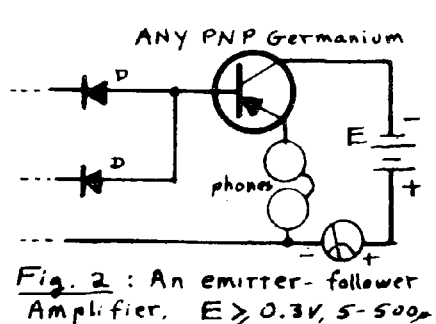

Fig. 2 : An emitter-follower Amplifier, $E \geq 0.3V$, $5-500A$
The amplifier of fig. 2 works better than any of the nominal common emitter ones used with xtal sets, because of the lower distortion provided by the common-collector configuration. Bias is provided by the diodes, and produces no overload until the signal becomes intolerably loud (my son had to detune C2 to attain reasonable volume, even without the amplifier!). With good quality phones, fidelity is magnificent! (THANKS to RHF!)
The amplifier of fig. 2 has high input impedance because of this inherent feature of emitter followers (analogous to cathode followers), so allowing the diodes to be tapped further out on the coil (e.g. +40%), giving higher output for the same selectivity.
(9) A self-powered arrangement is indeed possible, powering the amplifier of fig. 2 from a fig-1 type P/S, but this is ONLY of advantage when using a stronger station to power a weaker one. Furthermore it is NOT practical unless you use
Essentially this may be accomplished, and a much cheaper 400V SCR may be used simply by including a 400V ((or more)) diode in series, with suitable equalising resistors across both circuit elements, as shown in fig. 2.